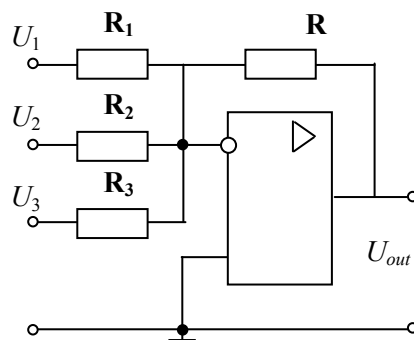

Fig. 2.35
**Summer and subtractor.** Fig. 2.35 shows the simplest math converter – an op amp *summing amplifier*, named also *summer* or *adder*. The output of this circuit is the sum of the input voltages